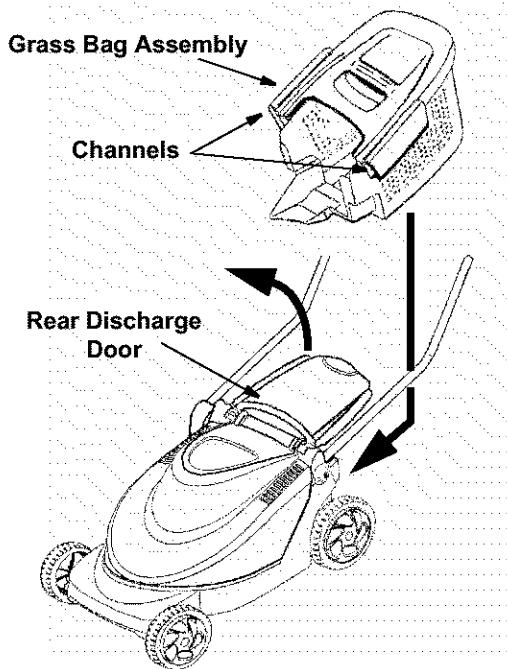

Figure 6
- Lift the rear discharge door on the back of the mower. Refer to Figure 6.
- Place the channels of the grass bag assembly over the lower portion of the lower handle as shown in Figure 6.